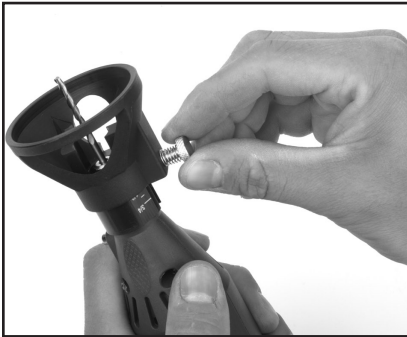

Figure 5. Router base.
5. Adjust the height of the router base by loosening the screw shown in **Figure 5**, and sliding the router base to the desired height. Tighten the screw in the side of the router base.